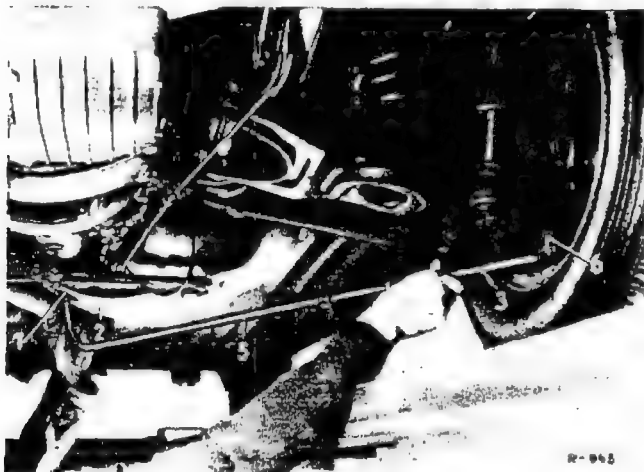

Fig. 40-3/11
In the case of the rear axle, too great a difference in the axle positioning distance can be corrected by adjusting the cross strut (5) for the rear axle suspension, but care should be taken that the center position of the rear axle is not changed more than is permissible (see Fig. 40-3/14).